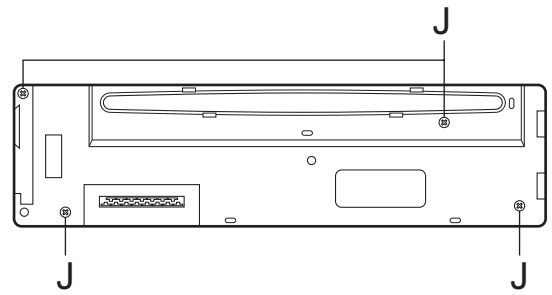

Fig.10
2.1.8 Removing the front board (See Figs.10 to 12)
2.2.5 Removing the clamper assembly (See Figs.10 and 11)